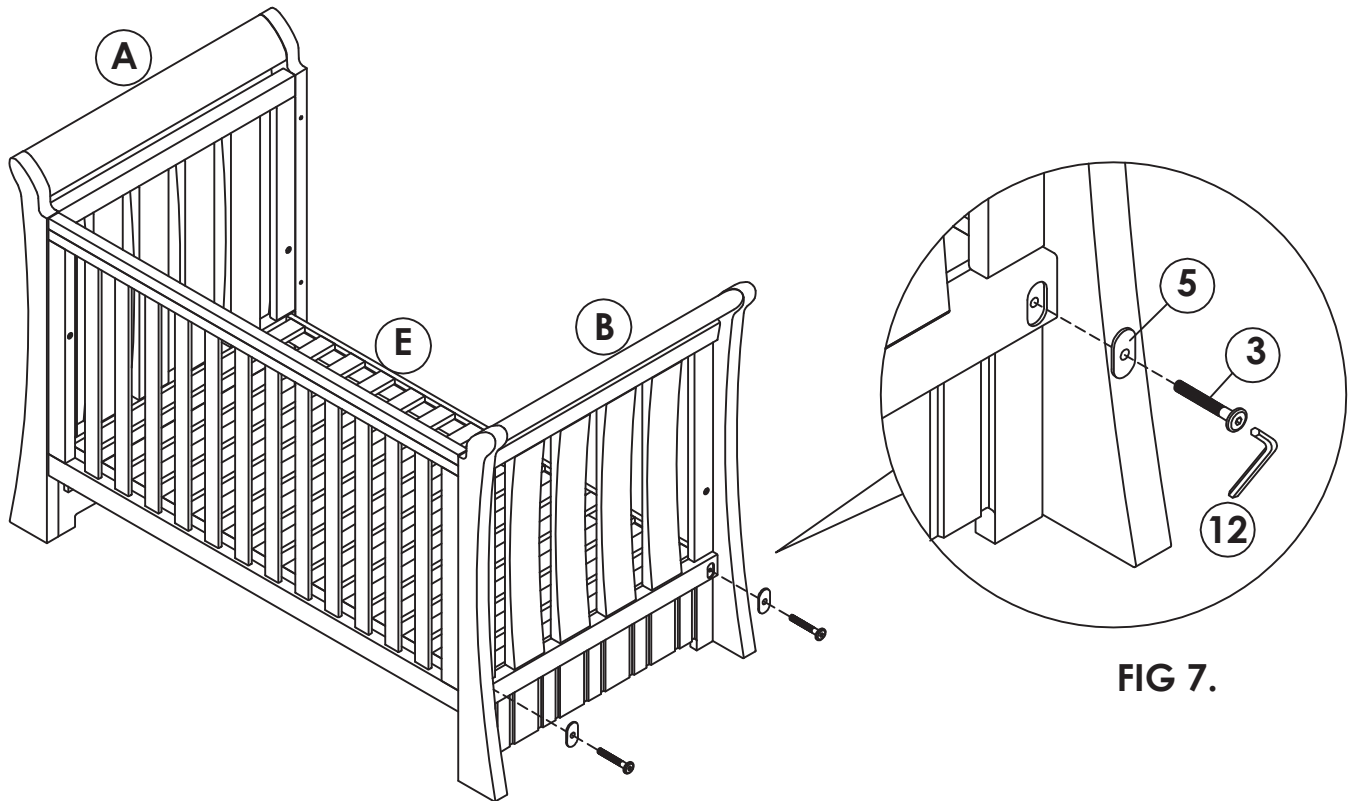

FIG 7.
Attach the mattress base (E) to the left end (A) and right end (B), using 4pc iron plates (5) and 4pcs bolts (3) with allen key (12) as shown in fig 7.